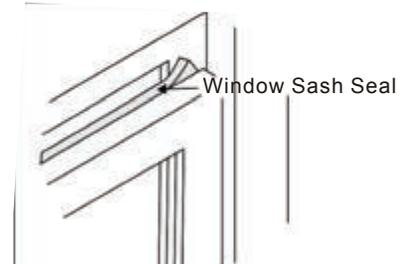

Fig.19A
1. Trim sash seal to fit window width. Insert into space between upper and lower sashes. (Fig 19A)